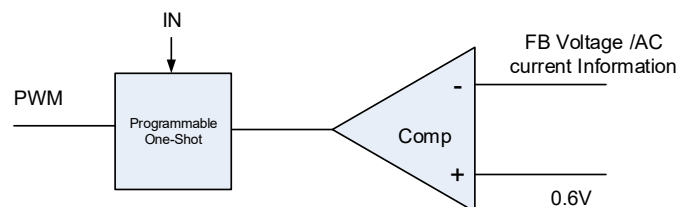

Figure 2. Simplified Control Schematic of AOZ2388QI
The simplified control schematic is shown in Figure 2. The high-side switch on-time is determined solely by an one-shot whose pulse width can be programmed by one external resistor and is inversely proportional to input voltage (IN). The one-shot is triggered when the internal 0.6V is higher than the combined information of FB voltage and the AC current information of inductor, which is processed and obtained through the sensed low-side MOSFET current once it turns-on. The added AC current information can help the stability of constant-on time control even with pure ceramic output capacitors, which have very low ESR. The AC current information has no DC offset, which does not cause offset with output load change, which is fundamentally different from other V^2 constant-on time control schemes.